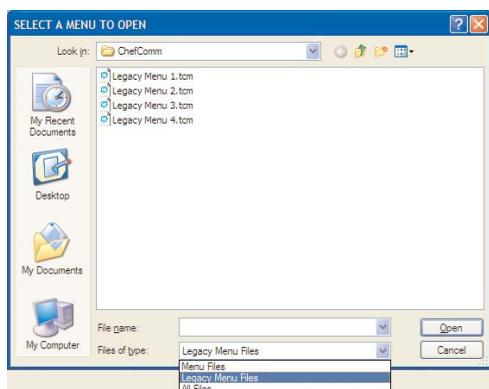

Figure 15: Open a Legacy Menu
2. In the files of type field, select Legacy Menu Files (Figure 15).